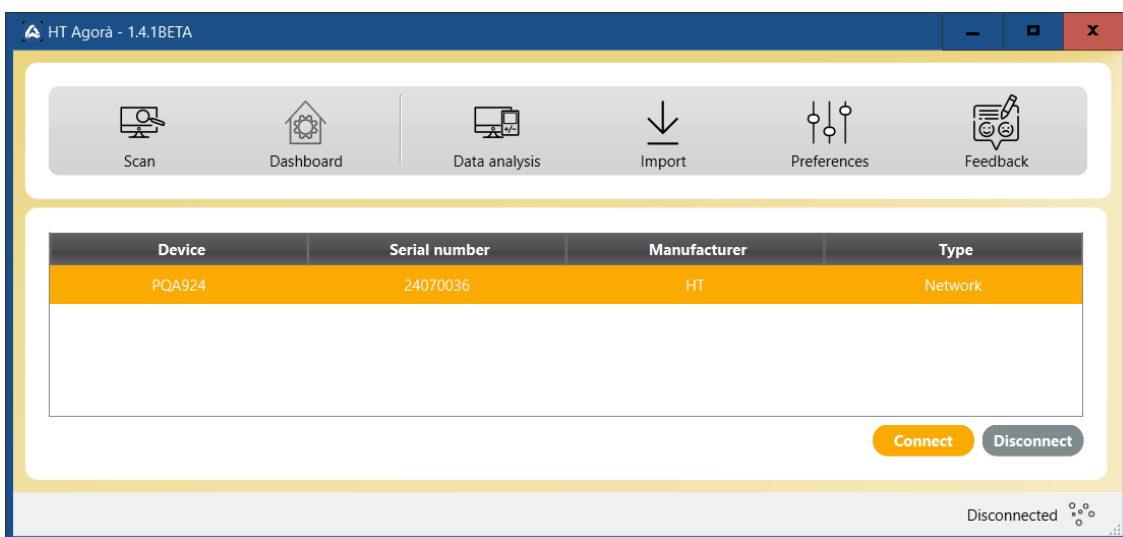

Fig. 86: Connecting the instrument via the HTAgorà software and Ethernet connection
- Click on "**Scan**" to detect the instrument. The row "PQA924" and type of connection "NETWORK" are shown as indicated in the Fig. 86